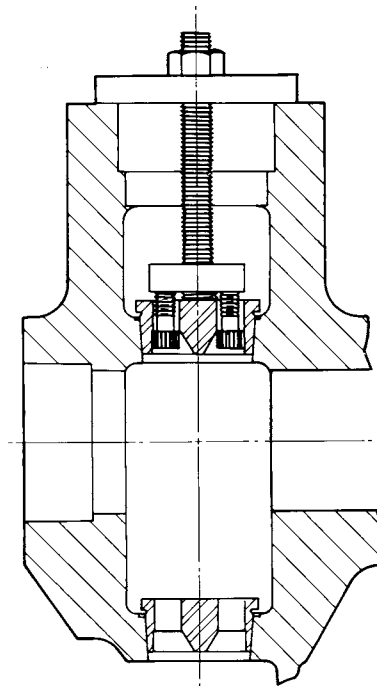

FIG. 2 Valve Seat Removal
Center Post Valves (See Fig. 2)
- A. First remove the valve caps (51) which provide access to both suction and discharge valves. Remove the stainless steel shoulder screw (58) which serves as a valve guide and spring retainer. The suction shoulder screw can be removed with a box end wrench, and the discharge will require a socket with short extension. Remove shoulder screw (58), spring retainer (57), spring (55, 56) and valve (52) from the pump fluid end.
- B. Use Kit 19555B1, Assemble stud, retainer and three LARGE screws as shown in Fig. 2. Insert screw heads thru holes in valve seat, rotate retainer to right until heads catch, and secure in place by screwing down stud firmly by hand. Place plate over stud, screw on nut, and torque slowly with wrench until seat breaks loose.